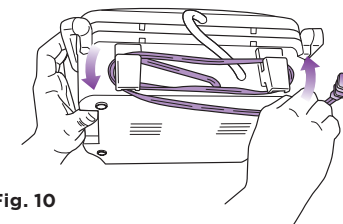

Fig. 10
- 3 Loosely wrap the cord around the cord storage at the back of the appliance. (Fig. 10)